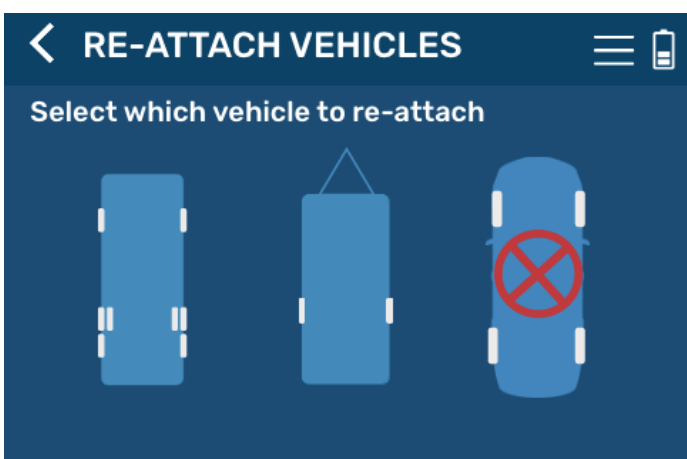

Fig.29
2. Select which vehicle to reattach (Fig.29).
NOTE: The red X on a vehicle indicates the vehicle is detached (Fig.29).